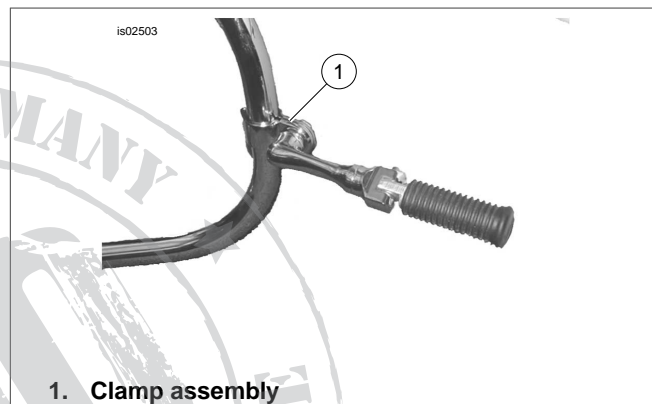

Figure 1. Footpeg Mount Installed (Long Mount Shown with Footpeg Installed)
2. See Figure 1. Obtain the clamp assembly (1) from kit. Position the clamp halves around the engine guard at the desired height and install with hinge pin head facing upward. Place the flatwasher between the ears of the clamp halves. Hold parts in position.